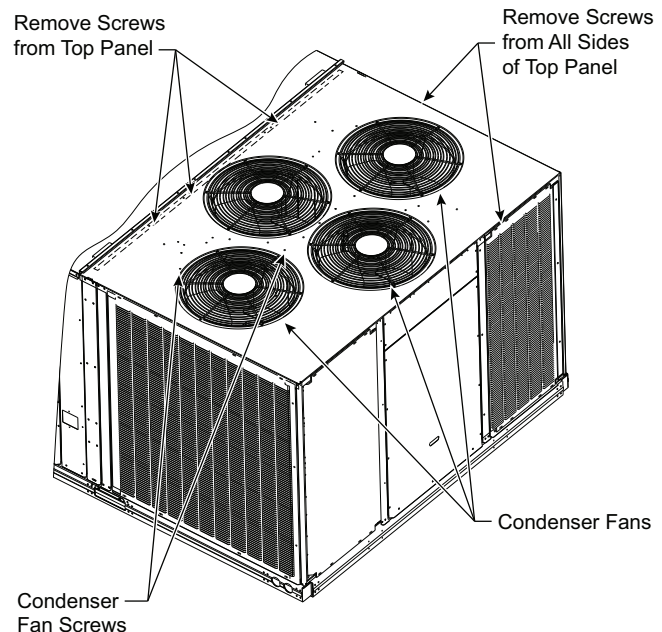

Fig. 18 — Location of Top Panel Screws and Coil Corner Post
2. Remove all screws from the top panel except the screws securing the condenser fan to the top panel. See Fig. 18.